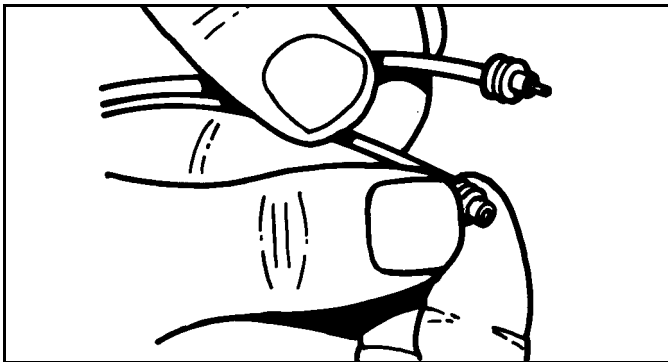

Figure 3-11
3. Install correct size cable seal on wire. (See Figure 3-11)